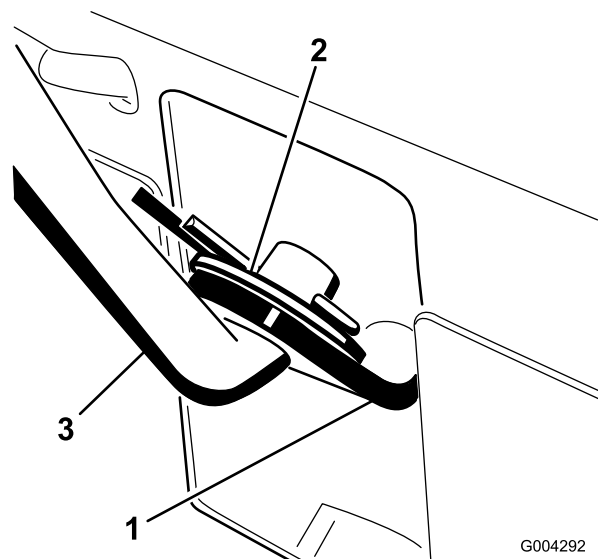

Figure 6
1. Pull the speed selector arm (Figure 6) to the most outward position.
3. Install the speed selector rod into the speed selector arm, add a flat washer on the selector rod, and secure it with a cotter pin (Figure 6).